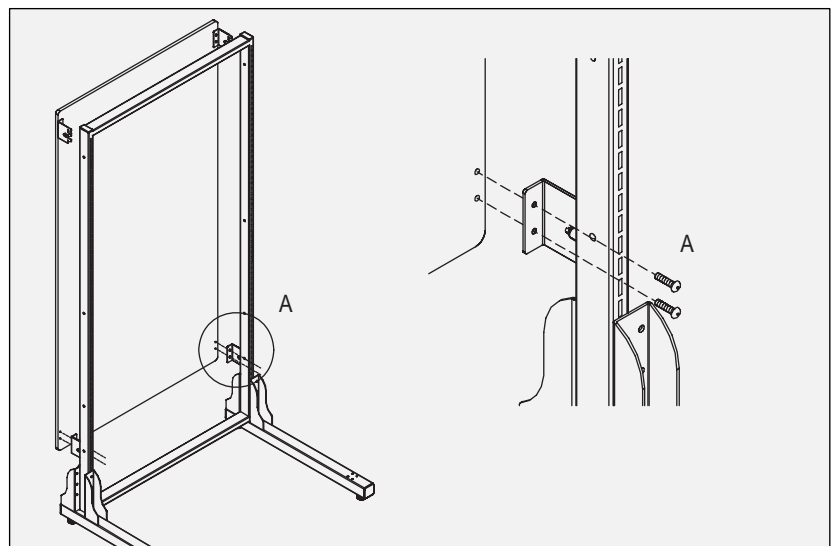

Fig. 22
- C. Insert (1) left and (1) right Back Panel Bracket onto the Frame near the bottom of the Panel and screw in tight (Fig. 22-Detail A).